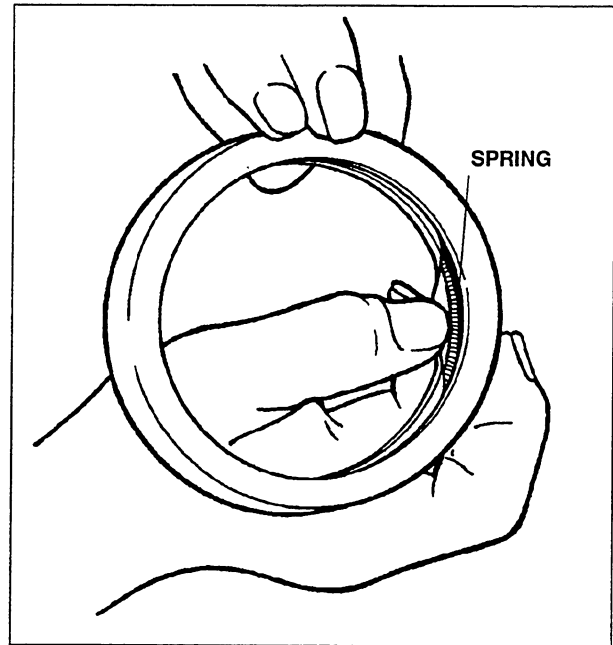
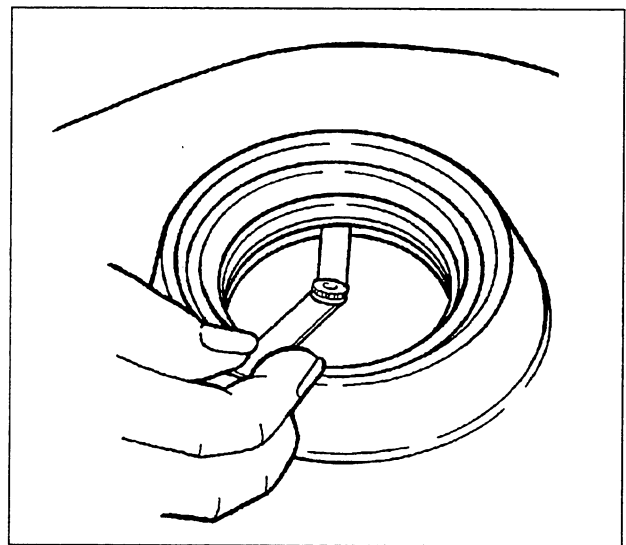

Figure 4-19. Oil Seal Spring
Figure 4-20. Checking for Contact Between Seal and Cover Bore
- F. Install reducer bushing (40), breather (39), and magnetic pipe plug (44).
20. Assemble cover (50) to the **sheave end** of vibrator housing (20) as follows:
Important: The spring within the rubber portion of oil seal (51) is visible from one side only. (Gently push the rubber seal aside to see the spring.) The side from which the spring can be seen must face toward the interior of the cover. (See Figure 4-19.)
- B. Press the seal (51) into the cover bore until it is fully seated against the shoulder of the bore. Be very careful not to damage the seal.
- C. Check that there is no clearance between the seal and the cover bore shoulder using feeler gauges (refer to Figure 4-20).
21. Install cover (50) on vibrator housing (20) as follows: